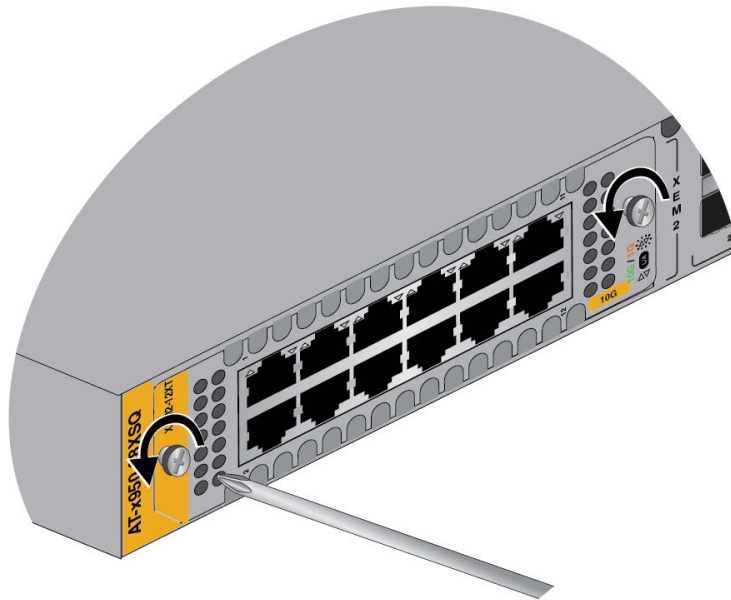

Figure 124. Loosening the Screws on the Ethernet Line Card
4. Use a #2 Phillips-head screwdriver to loosen the two screws on the faceplate of the card. Refer to Figure 124.